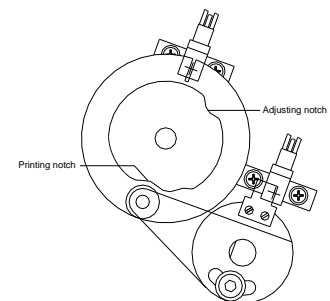

Figure 24
The sketch (see Figure 24) shows from behind the shaft of ribbon save motor (H) with pressure curve (C) and disc (B). The bearing ring (D) with the attached sole plate (E) is underneath.
4. Loosen the hex socket head screw (F) about one turn until the sole plate (E) with the attached ball bearing is freely mobile.
6. Press the sole plate (E) with the ball bearing (G) in the adjusting notch of the pressure curve. Take care of not to have too much play. Fasten the hex socket head screw (F).
10. Turn by hand the motor shaft with the pressure curve and disk from the lift to the right until a slight resistance can be noticed. If the slot in the disk can be moved slightly to the right and to the left out of the photocell (A), then the pressure curve is adjusted correctly.